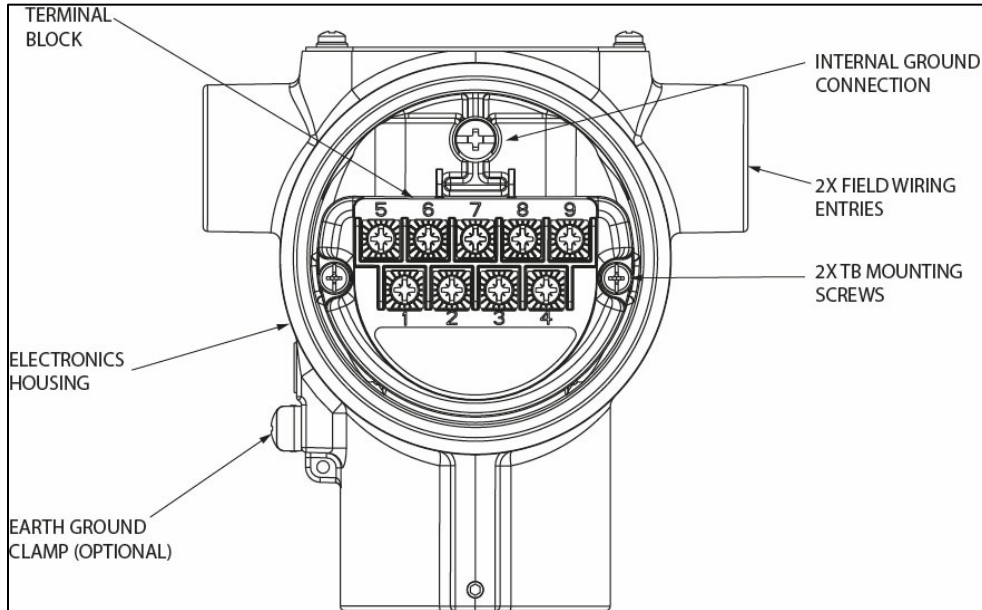

Figure 7 – Transmitter 9-Screw Terminal Board and Grounding Screw
Loop wiring is connected to the Transmitter by simply attaching the positive (+) and negative (-) loop wires to the positive (+) and negative (-) terminals on the Transmitter terminal block in the Electronics Housing shown in Figure 7. Connect the Loop Power wiring shield to earth ground only at the power supply end.
As shown in Figure 7, each Transmitter has an internal terminal to connect it to earth ground. Optionally, a ground terminal can be added to the outside of the Electronics Housing. Grounding the Transmitter for proper operation is required, as doing so tends to minimize the possible effects of noise on the output signal and affords protection against lightning and static discharge. An optional lightning terminal block can be installed in place of the non-lightning terminal block for Transmitters that will be installed in areas that are highly susceptible to lightning strikes. As noted above, the Loop Power wiring shield should only be connected to earth ground at the power supply end.
1. See Figure 7, above, for parts locations. Loosen the end cap lock using a 1.5 mm Allen wrench.
Connect a wire from the Earth Ground Clamp or to the Internal Ground Connection (see Figure 7) to Earth Ground to make the protection effective. Use a size 8 AWG or (8.37mm²) bare or green covered wire for this connection.
For ungrounded Thermocouple, mV, RTD or ohm inputs connect the input wiring shield(s) to the Internal Ground Connection shown in Figure 7.
For grounded Thermocouple inputs, connect the Internal Ground Connection shown in Figure 7 to the same earth ground as used by the thermocouple.